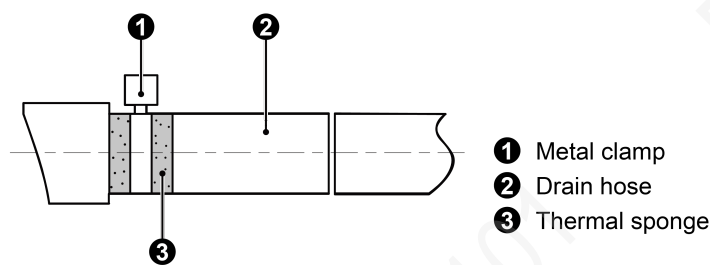
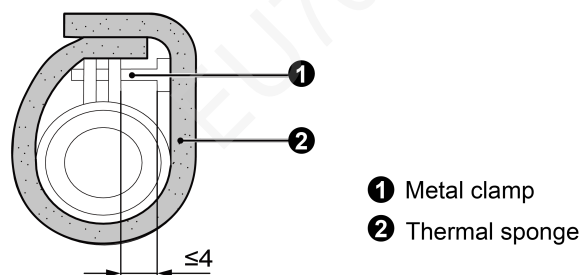

Fig 4.8
Fig 4.9
- (1) Insert the drain hose into the drain hole and tighten it with tapes, as shown in Fig 4.8
- (2) Tighten the pipe clamp, with the distance between screw nut and hose smaller than 4mm.
- ①metal clamp(accessory) ②drain hose(accessory) ③Grey tape(accessory)
- (3) Use sealing plate to make the pipe clamp and hose insulated, as shown in Fig 4.9
- ①metal clamp(accessory) ②thermal sponge(accessory)